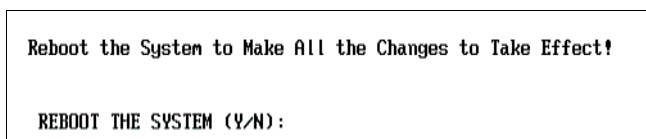

Figure 24-21 Emulex BIOS - Reboot
7. Type Y to reboot the system with the changed settings (Figure 24-21).